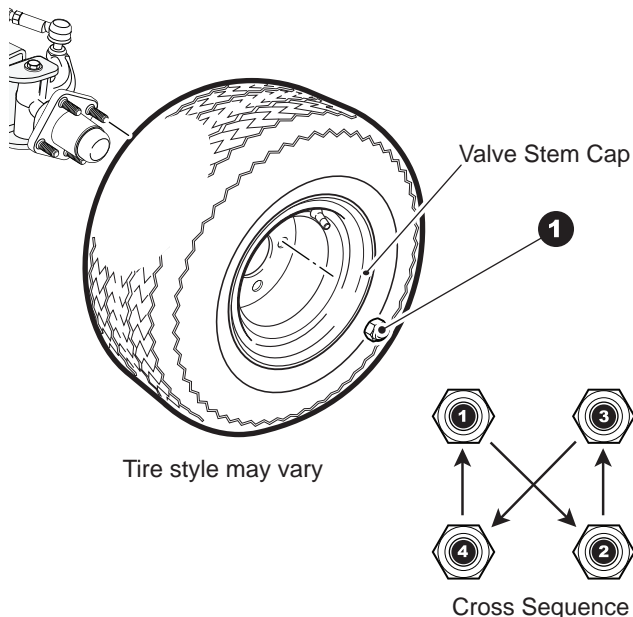

Fig. 11 Wheel Installation
With the valve stem to the outside, mount the wheel on to the hub with lug nuts. Finger tighten the lug nuts (1) in a 'cross sequence' pattern (Ref. Fig. 11). Tighten the lug nuts to 50 - 85 ft. lbs. (70 - 115 Nm) torque in 20 ft. lbs. (30 Nm) increments following the 'cross sequence' pattern.